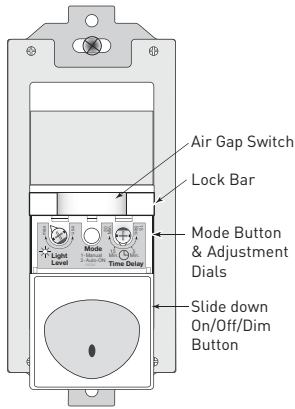

Fig. 5: Sensor Adjustment Controls
1. Push in the Air Gap Switch shown in Figure 5 so that it clicks and locks into a depressed position below the surface of the rest of the RWDU500. This engages the Air Gap, which stops electricity from flowing to the connected load.